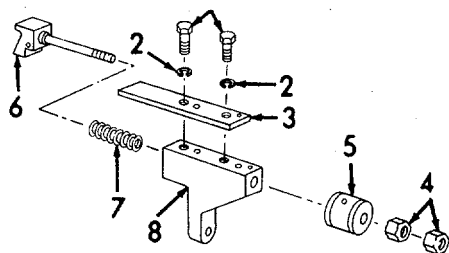

Figure 6-159. Cushion Spring Holder, Disassembly.
b. Disassembly (Refer to Figure 6-159).